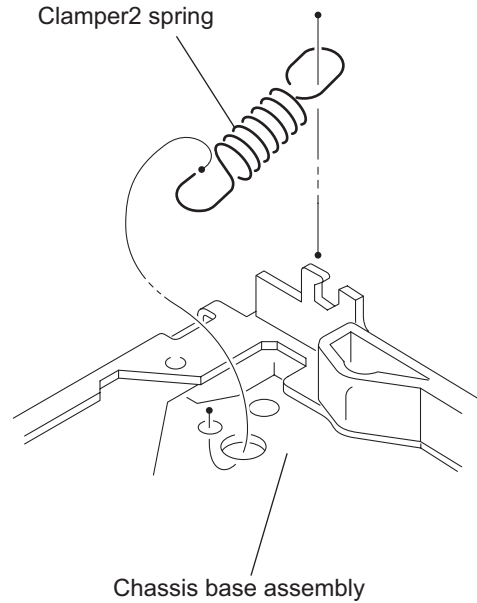

Fig.6
- Move the clamper unit in the direction of the arrow and turn. Release the two joints **e** and **f**, then remove the clamper unit upward. (See Fig.6.)